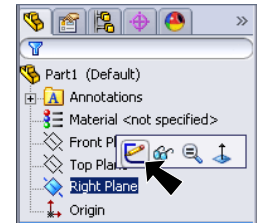
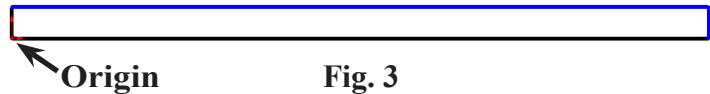

Fig. 2
Fig. 3
Step 1. Click **Right Plane**  in the Feature Manager and click **Sketch**  from the Content toolbar, Fig. 2.
Step 2. Click **Rectangle**  (S) on the Sketch toolbar.
Step 3. Draw a rectangle starting at the Origin , Fig. 3.
Step 4. Click **Smart Dimension**  (S) on the Sketch toolbar.